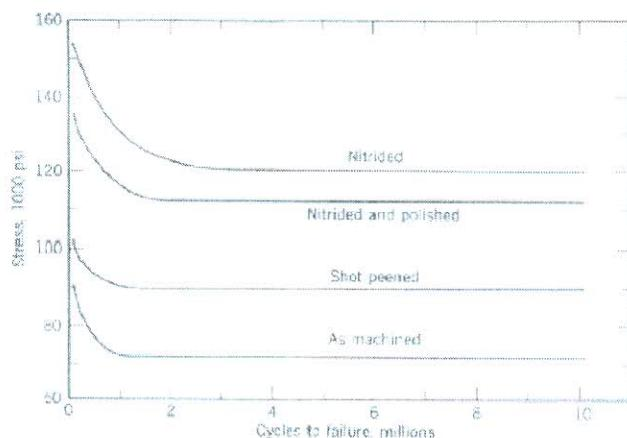

Figure 7 : Bending fatigue test results on sections from crankshafts: endurance limit versus surface treatment
6. [a] Figure 7 gives a plot of stress (endurance limit) versus cycles to failure for some methods of surface treatment done to sections of a crankshaft.